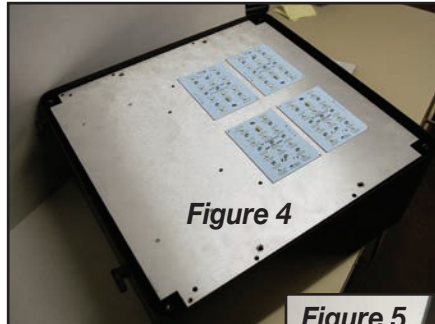

Figure 4
- 4) Attach kit bracket to fixture case using the **3** #8-32 x 3/8" mounting screws for the QSSI WPC15 or the **4** #10-24 x 3/8" mounting screws for the Grandlite SM311. Be certain all screws are present and tightly screwed down. When complete, the seated kit inside the fixture should appear as in FIGURE 4.